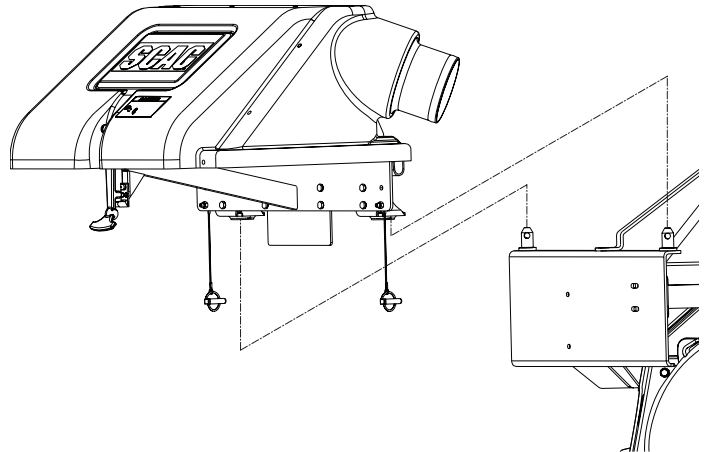

Figure 2-13. Hopper Installation
16. With help from an assistant, install the hopper assembly to the machine and secure with the ring pins. See Figure 2-13.
The model shown in Figure 2-13 is for reference only. The grass catcher installs to all models in a similar fashion.